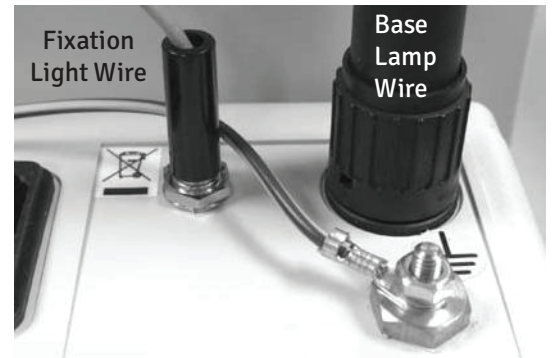

Figure 5 Connections
12. Attach the Base Lamp Wire to the back of the Power Supply Assembly. Refer to Figure 5.